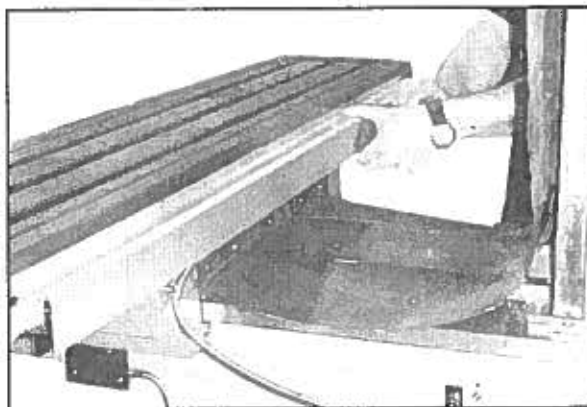

Figure 17. Completing "X" axis scale mounting.
4. When the scale is mounted, fix the reader head to the saddle. If necessary, shim the head to ensure that it is parallel and in-line with the scales (**Figure 17**). *NOTE: The blue packing between the reader head and scale allows for the correct clearance and holds the reader head parallel to the scale.*